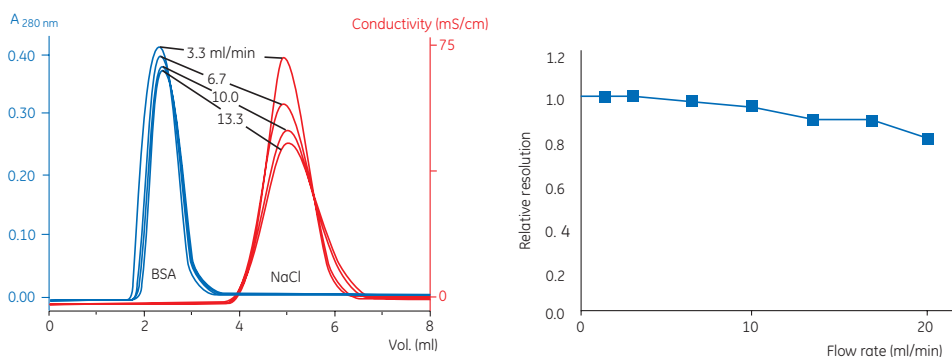

Fig 5.11. Influence of flow rate on separation using a HiTrap Desalting column.
3. Select the highest flow rate recommended. Figure 5.11 shows an example of the influence of flow rate on group separation.